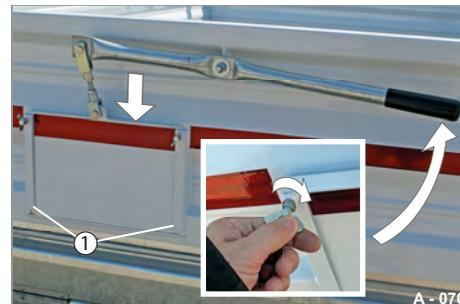

Fig. 92 Closing dosing slider
- ▶ Clean any dirt off the drive slot (Fig. 92/1) of the sliding flap.